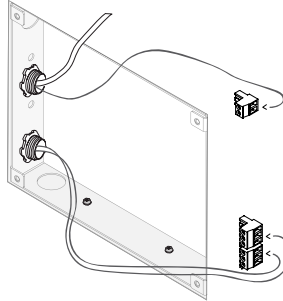

Figure 6
STEP 6 - Match wiring terminals to the labels on the back cover and re-insert the wiring terminals into the unit. As illustrated in figure 6.